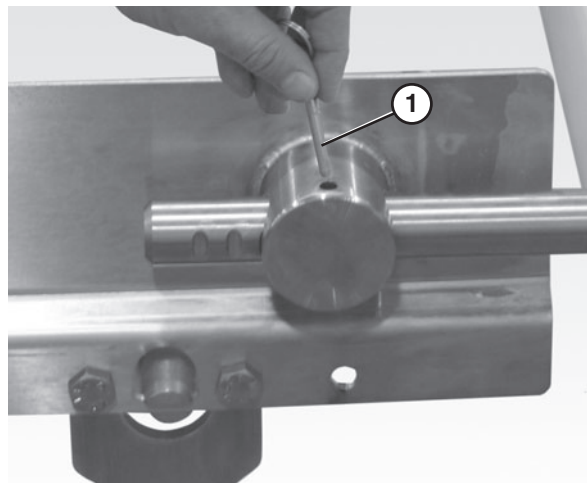

Figure 32
- Insert the pull pins (**Figure 32, item 1**) on the tension end of the conveyor.